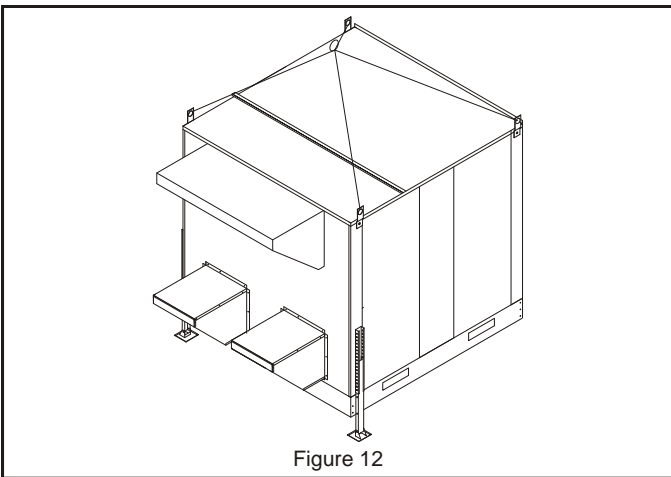

Figure 12
- Using lifting lugs, raise ERS unit approximately three (3') feet. Remove nut and bolt assembly to slide telescoping part of leg out of guide from the top and reinsert into bottom of guide having attached flat foot under unit. Do not fasten tightly, adjustment will need to be made when ERS is put into position on unit. **See Figure 12 and Figure 13.**